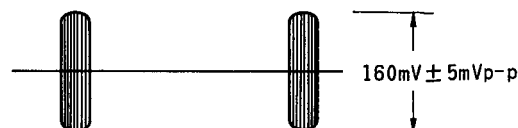

Fig. 3-12
- 9) Adjust RT102 so that the burst section in record chroma signal is $160\text{mV} \pm 5\text{mVp-p}$. (Fig. 3-12)